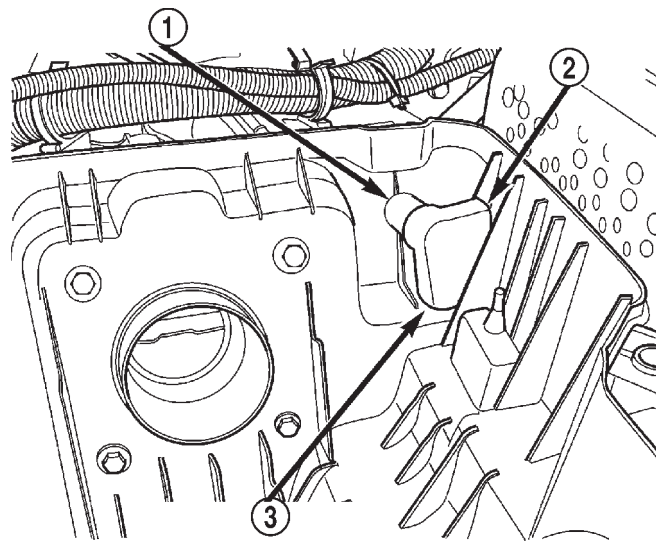

FIGURE 5
11. Install the filter pack assembly through the air cleaner hole so that the filter pack is inside the air cleaner with the open side facing rearward and the small end of the rubber elbow is outside of the air cleaner, facing rearward and slightly upward (Figure 5).